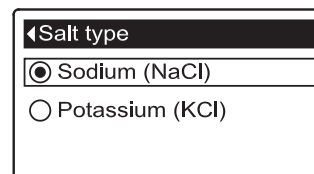

FIG. 32
5. Press the SELECT (○) button to display the Salt type menu (See Figure 32).
6. If the desired salt type already has a black dot next to it (See Figure 32), go to Step 7. Otherwise, press the conditioner/refiner’s DOWN (▼) or UP (▲) buttons to scroll to the other salt type, then press SELECT (○) to choose it.